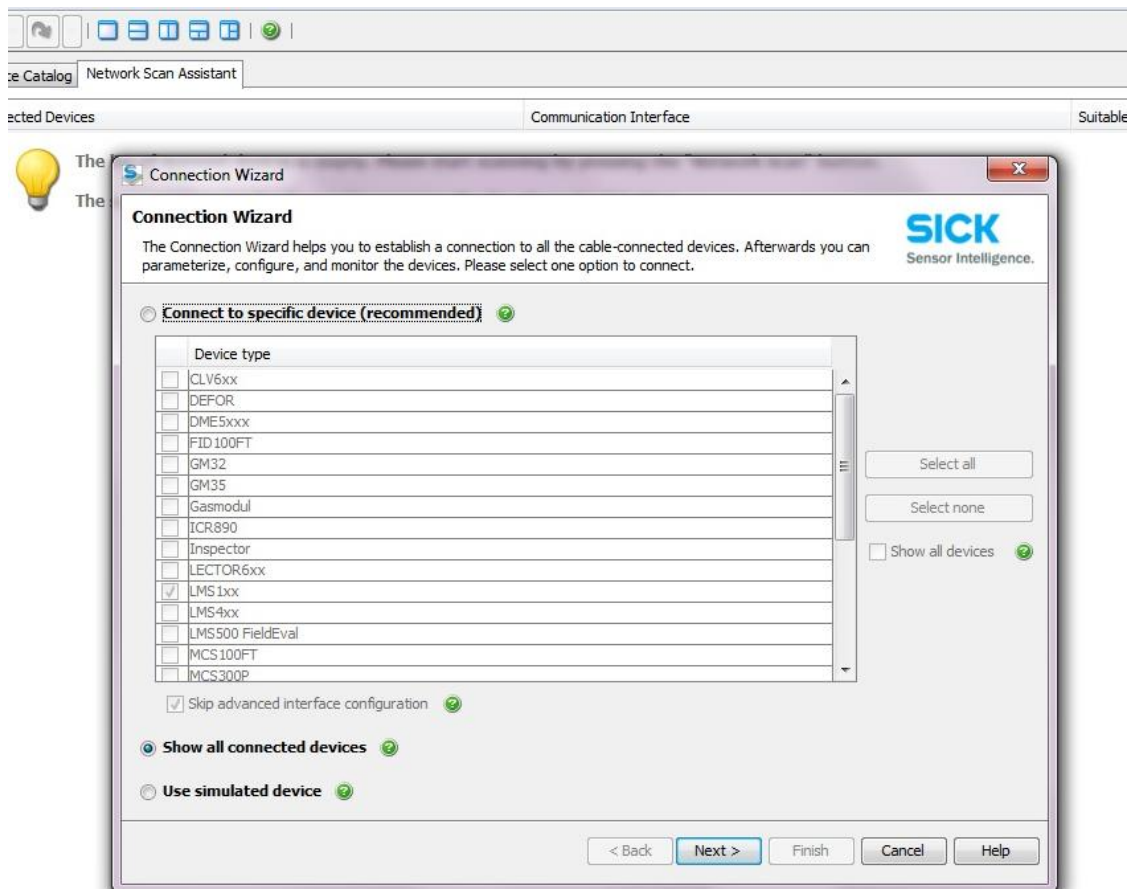

Fig. 4.
3. Select "Show all connected devices". Fig. 4.